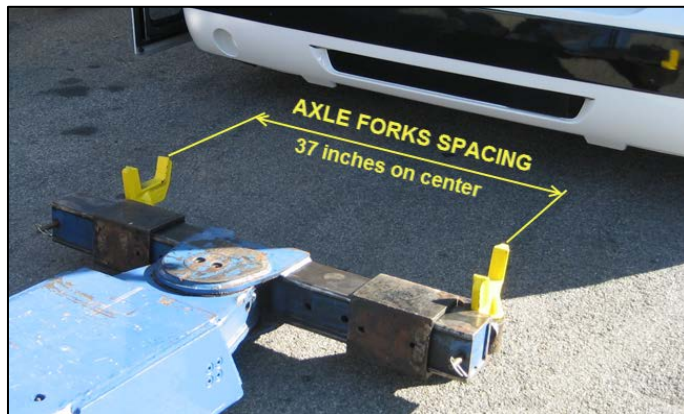

FIGURE 34
2. Place the axle forks on the tow bar fork holders (Figure 34).